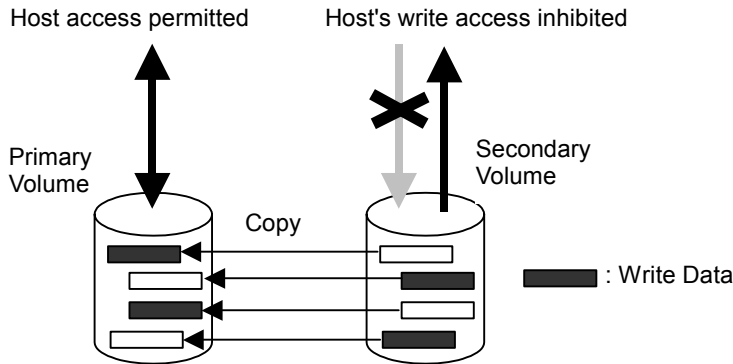
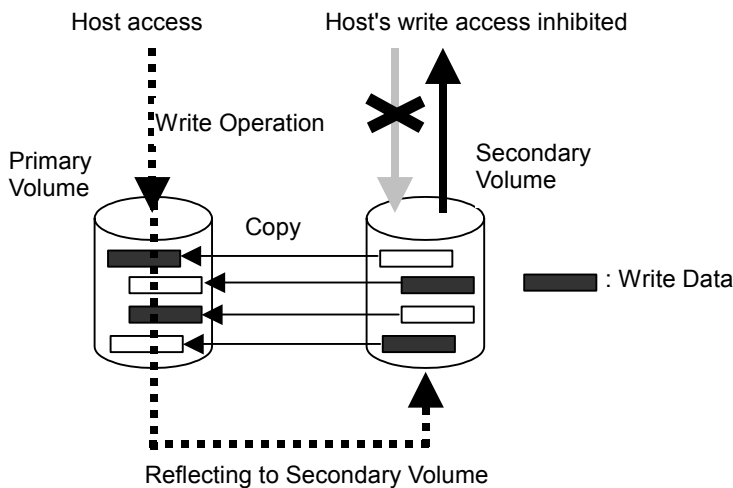

Figure 2.4 Reverse Pairresync Operation (`pairresync -restore`)
Figure 2.5 Reflecting Write Data to S-VOL during Reverse Pairresync Operation (`pairresync -restore`)
- **Reverse.** The reverse **pairresync** (**pairresync -restore**) operation (see Figure 2.4) synchronizes the P-VOL with the S-VOL. The copy direction for a reverse **pairresync** operation is S-VOL to P-VOL. The pair status during a reverse resync operation is COPY(RS-R), and the S-VOL becomes inaccessible to all hosts for write operations during a reverse **pairresync** operation. The P-VOL remains accessible for both read and write operations, and the write operations on P-VOL will always be reflected to S-VOL (see Figure 2.5).